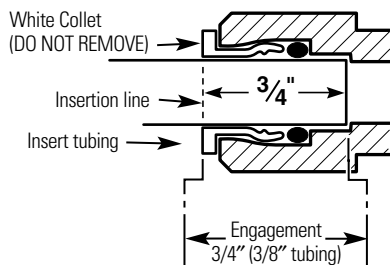

Fig. 9
3. Push the tubing firmly into each fitting on the manifold until the line is flush with the fitting collar. (If the tubing is removed, re-cut the end, measure, mark and re-insert). Tubing must be fully inserted to avoid leaks (Fig. 9). **(To remove tubing, depress and hold white collet; pull tubing out to remove.)**